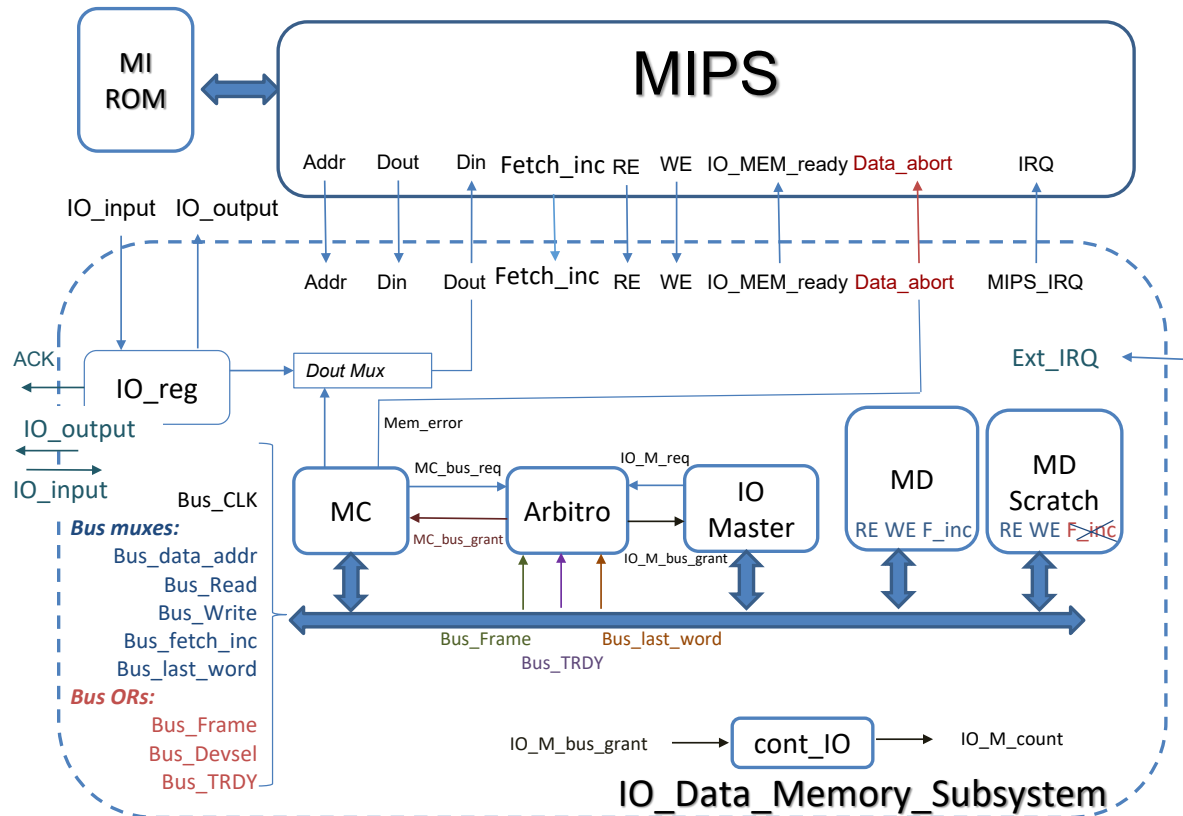

Figure 1: Principal components and signals in the IO\_MD\_subsystem of this project. The assignment consist in designing the MC Control Unit
In this second project, the memory system encompasses a cache memory (MC), the data memory (MD), a *scratch* memory (MD Scratch), a semi-synchronous bus, and an I/O peripheral (IO\_Master). Both the MC controller and the IO\_Master controller are bus managers1. Therefore, the bus requires an arbiter to avoid conflicts. To ensure fair bus access, the arbiter uses dynamic priority assignment. The interface with the MIPS is identical to that of the memory in the first project. Fig. 1 shows the bus signal diagram described below.